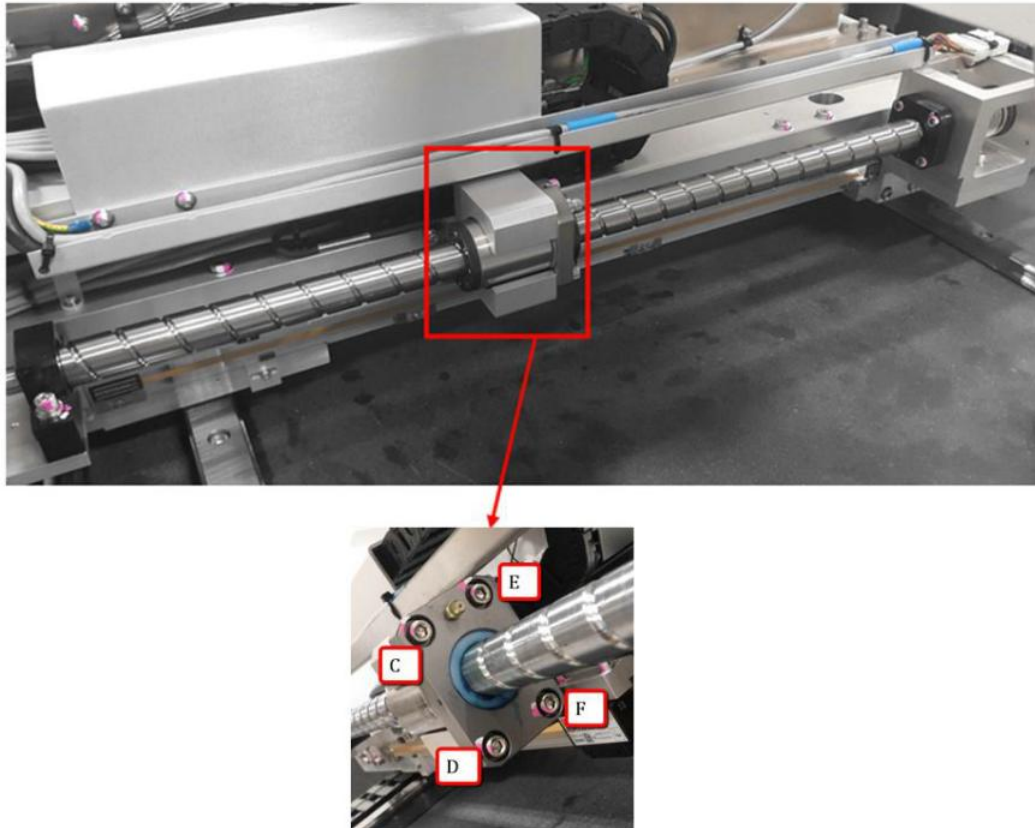

Figure 7 Middle Support Bearing
9. Push the X axis from Home position to the middle of the stage and tighten 4 screws at Bearing support, Fixed round as shown in Figure 7.